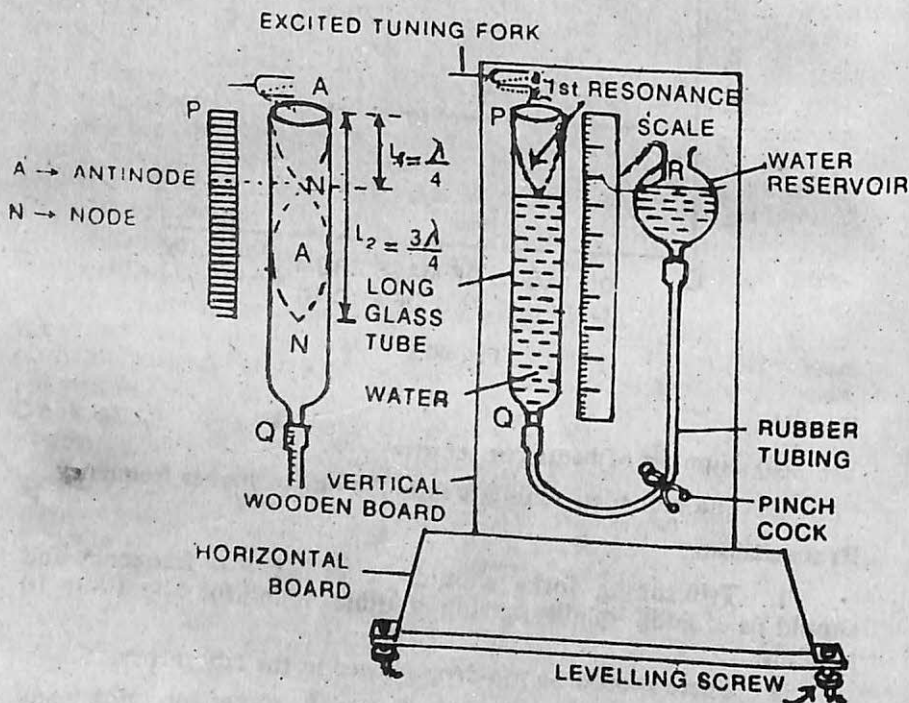

Fig. 41.1. Resonance Tube Apparatus
An air column can easily be set into vibrations with the help of a tuning fork. The frequency of the air column can be adjusted equal to that of the tuning fork by varying its length. This can be easily achieved with the help of an apparatus called *resonance tube* (Fig. 41.1).
Let a tuning fork of frequency ' n ' be struck against a rubber pad and held at the open end (P) of the tube as shown in Fig. 41.1. Adjust the level of water in the tube so that the air column begins to vibrate in resonance with the tuning fork and a loud sound is heard. Let us understand what happens when the *air column resonates*.
2. Pour water in the reservoir (R) and the tube (PQ). Test the pinch-cock i.e., the water level in the tube does not change when the pinch-cock is closed and note down the room temperature in $^{\circ}\text{C}$.
3. Strike gently a tuning fork of known frequency say 512 hertz on the pad. Hold it above the open end of the tube so that its prongs are horizontal and vibrate in a vertical plane as in Fig. 41.1.